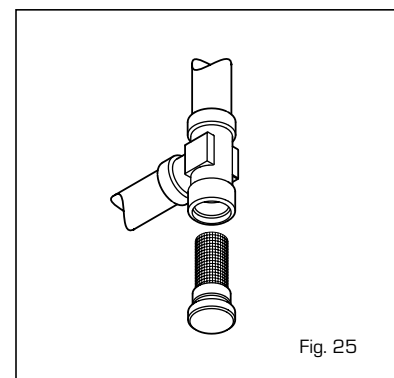

Fig. 25
4.7.1 Cleaning the C.H. water filter "AQUA GUARD" (fig. 25)